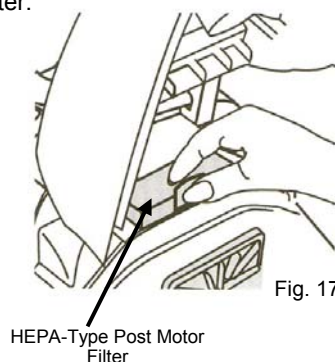

Fig. 17
- The HEPA-Type post motor filter is located just underneath the dust bag compartment cover. (Fig. 17)